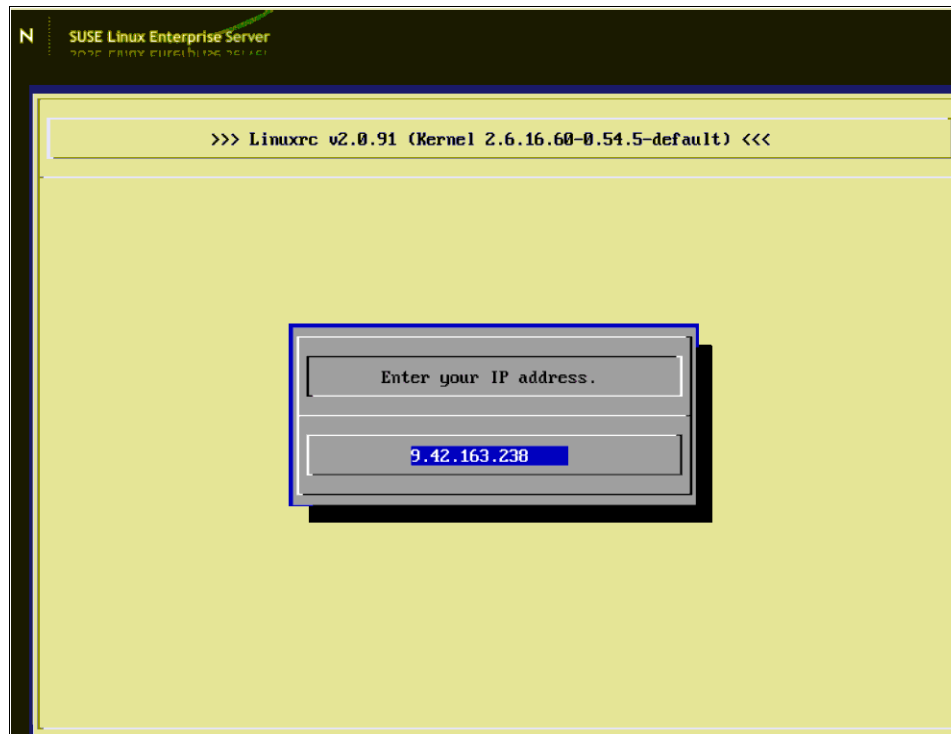

Figure 6-53 Static IP
3. Based on your network, select **Dhcp** or **Static IP**, as shown in Figure 6-53.